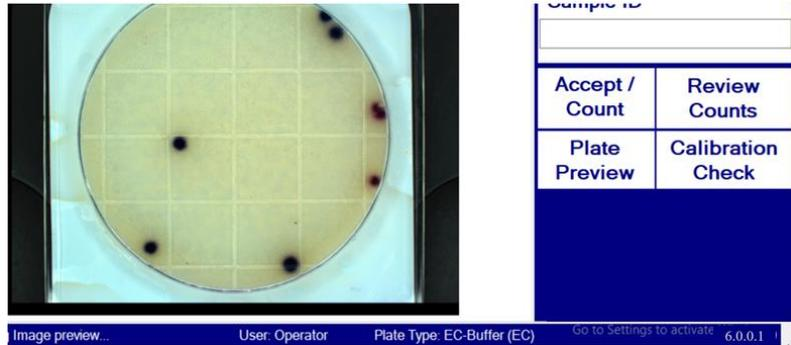
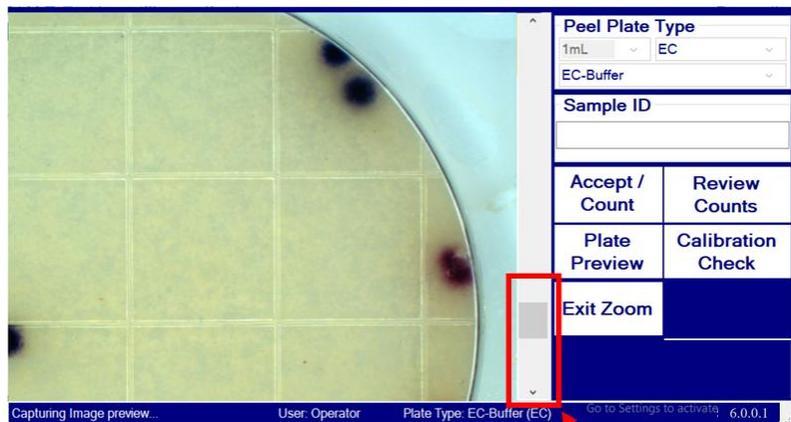

Figure 20
Figure 21
- Pressing the **Plate Preview** button shows an image of plate without performing a count. (Figure 20)
- Touching, or mouse clicking, on plate preview image of Figure 20, generates a zoom (amplifying) bar. (Figure 21)
- From count screen press **Review Counts** button. (Figure 20)